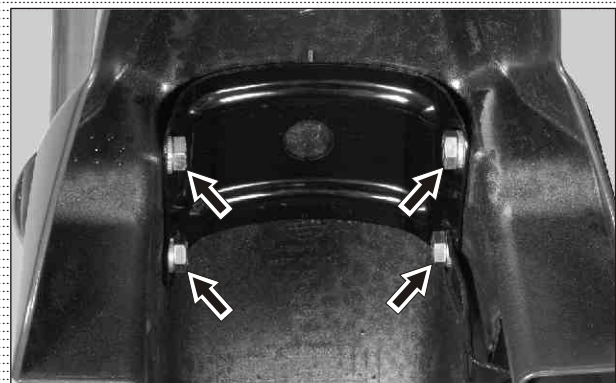

Fig. 6.38
- Remove hexagonal screws (M8x20 - 4 nos) along with wave spring washer (4 nos) from the fender front mounting. (Fig. 6.38)